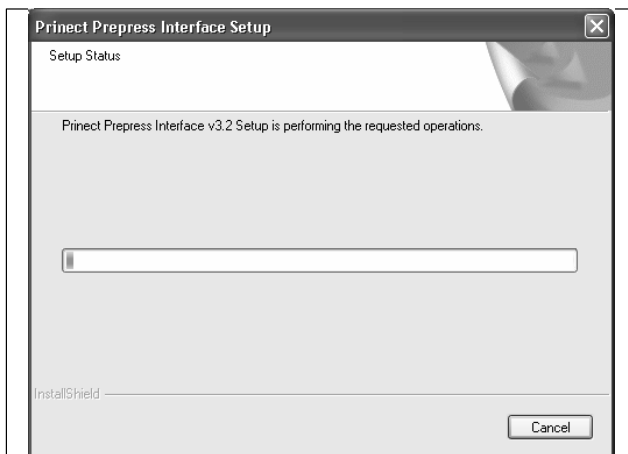

Fig. 6 Setup Status dialog box
8. Wait until the progress bar has reached 100% (Fig. 6) and the dialog box closes. The selected files and all program files have been deleted.